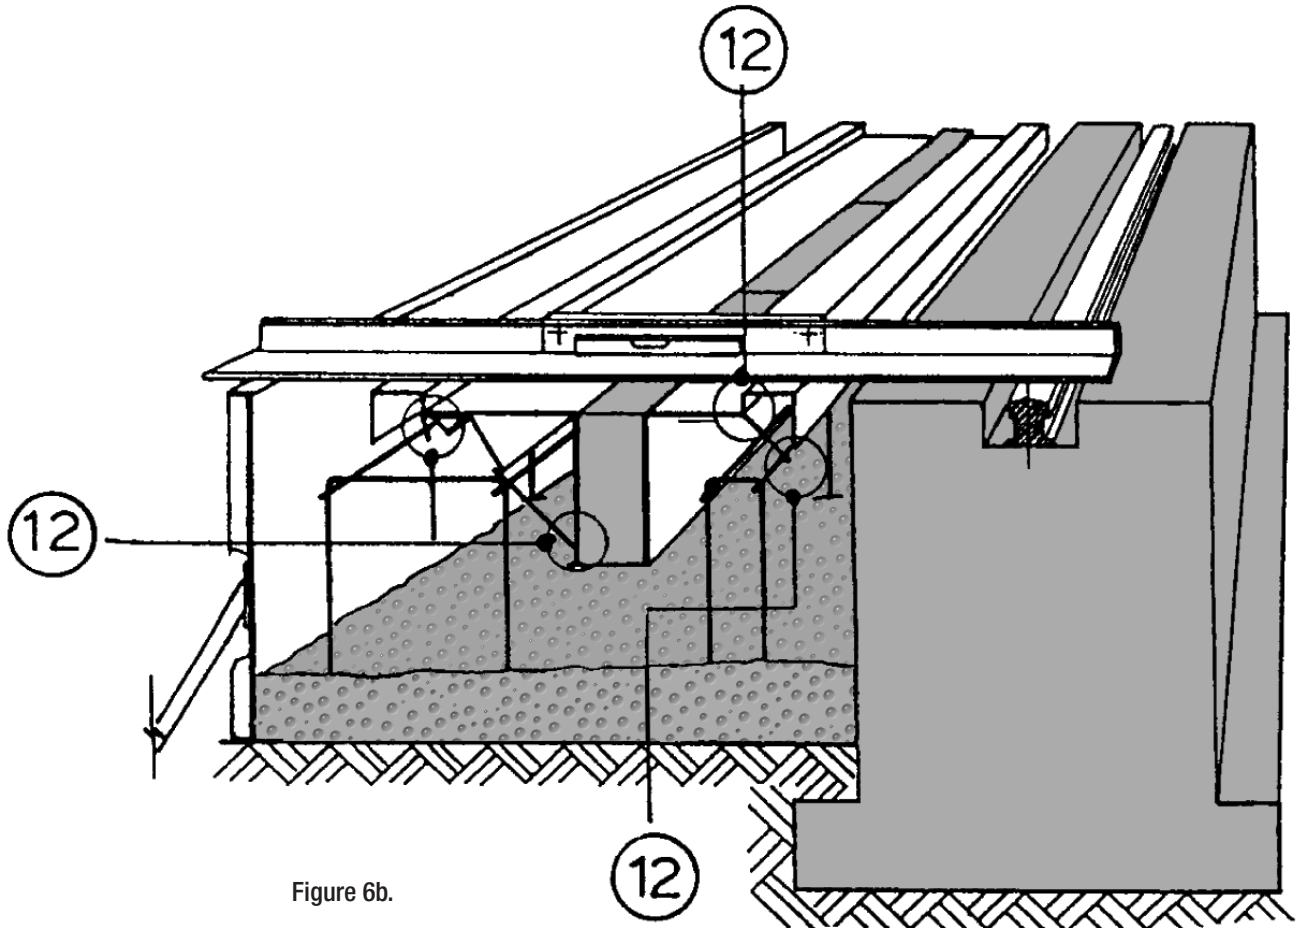

Figure 6b.
6.2 After aligning and leveling the channel with the crane rail, the channel must be fixed to the reinforcement to keep the channels from moving during the second pour phase. This is achieved by welding pieces of iron reinforcing rods to the channel system (12), as shown in (figure 6b).